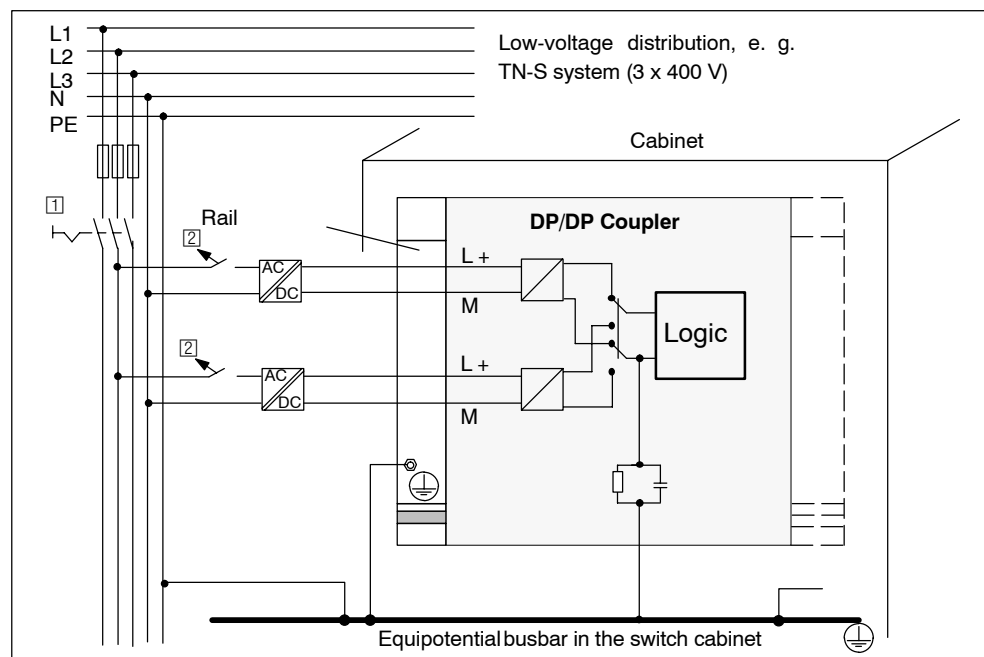

Figure 3-2 Configuration with a grounded supply
- Main switch (see Figure 3-2, [1]): DIN VDE 0100 Part 460
- Isolator (see Figure 3-2, [2]): DIN VDE 0113 Part 1
Figure 3-2 shows the position of the modules in a configuration connected to a TN-S power supply network. In installations with grounded reference potential, interference currents are discharged via the protective conductor.